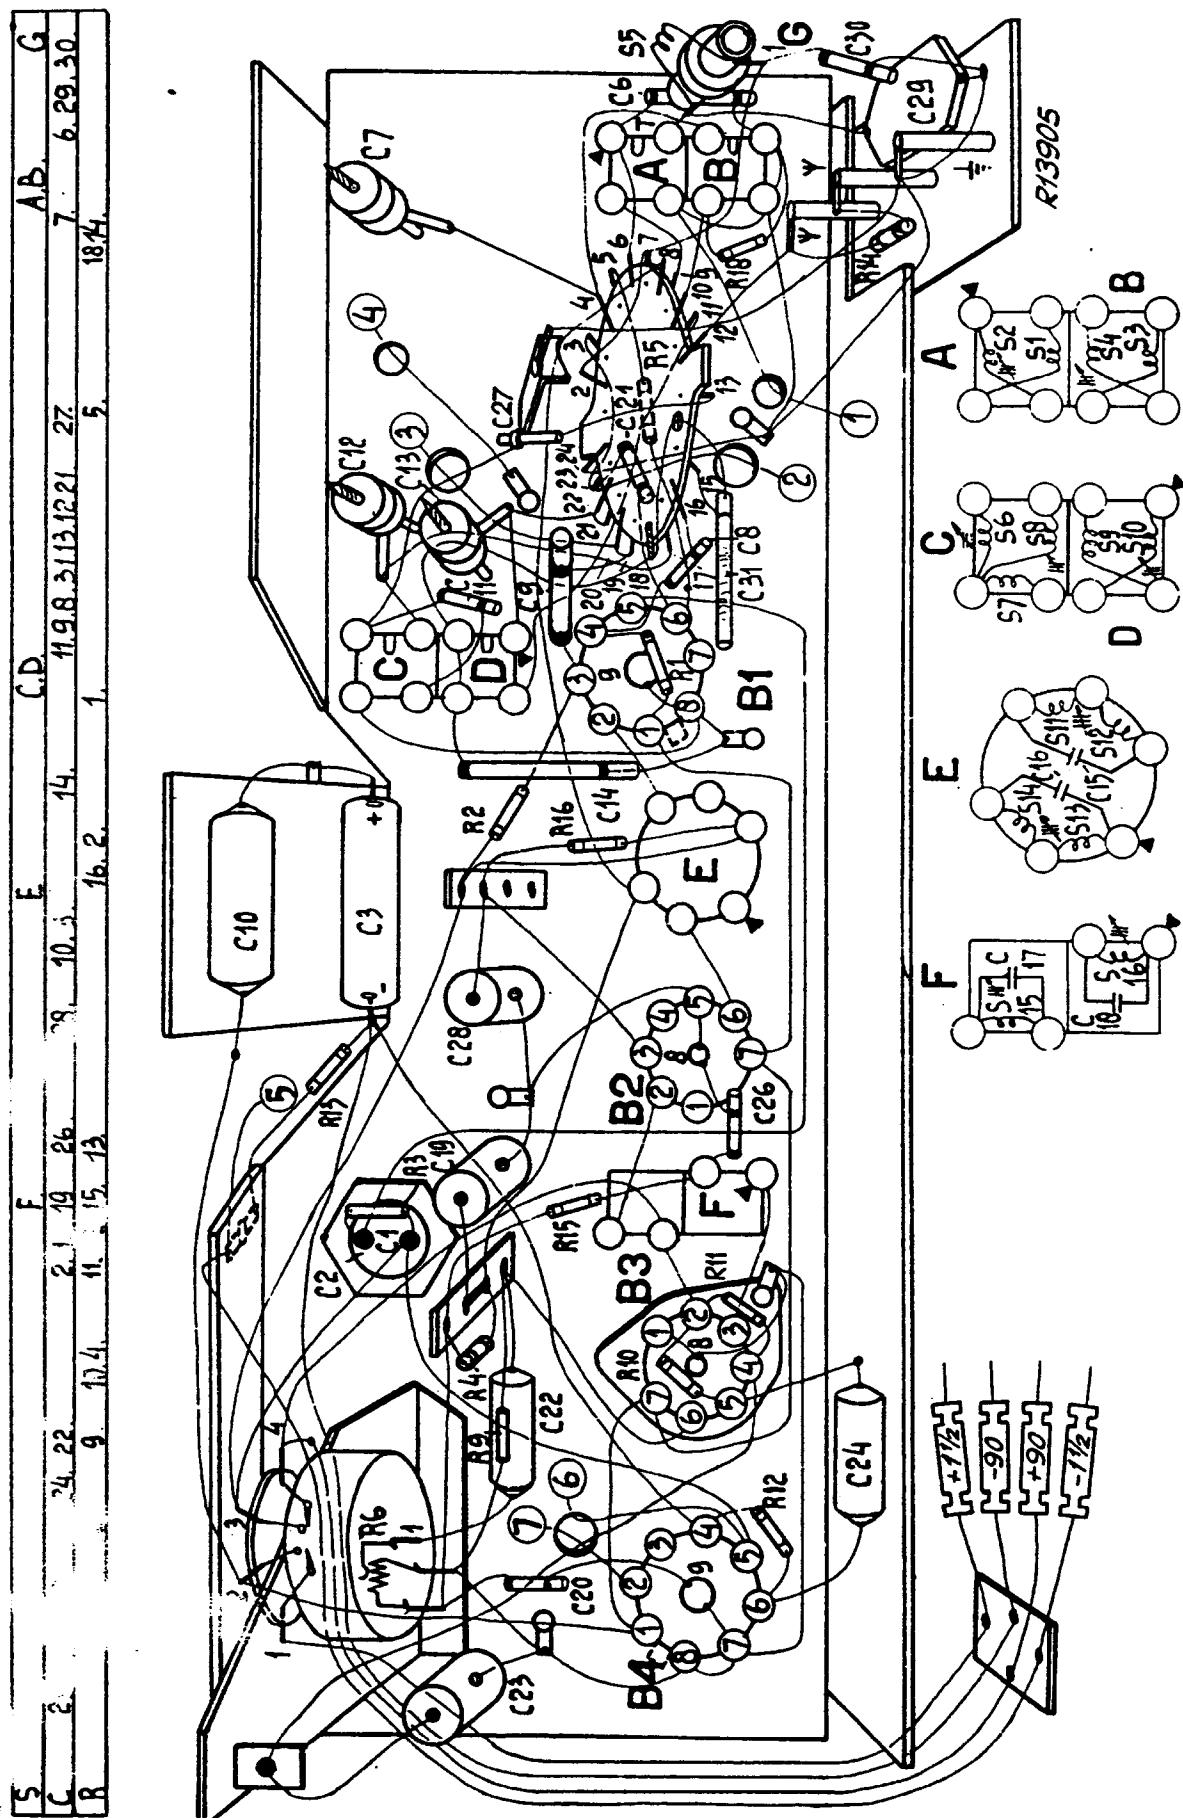

Fig 6
- Fig. 6 Wiring diagram {above}